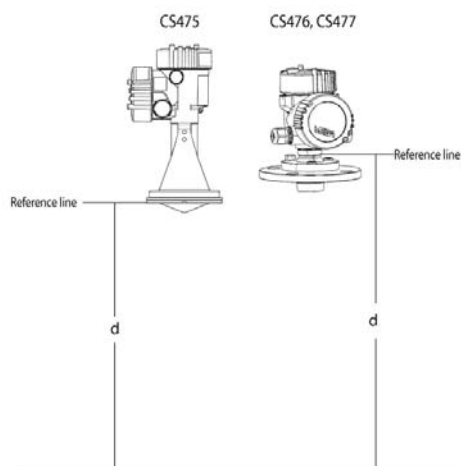

Figure 6-1. Reference line for measurement range
**Measurement Range** (see Figure 6-1)